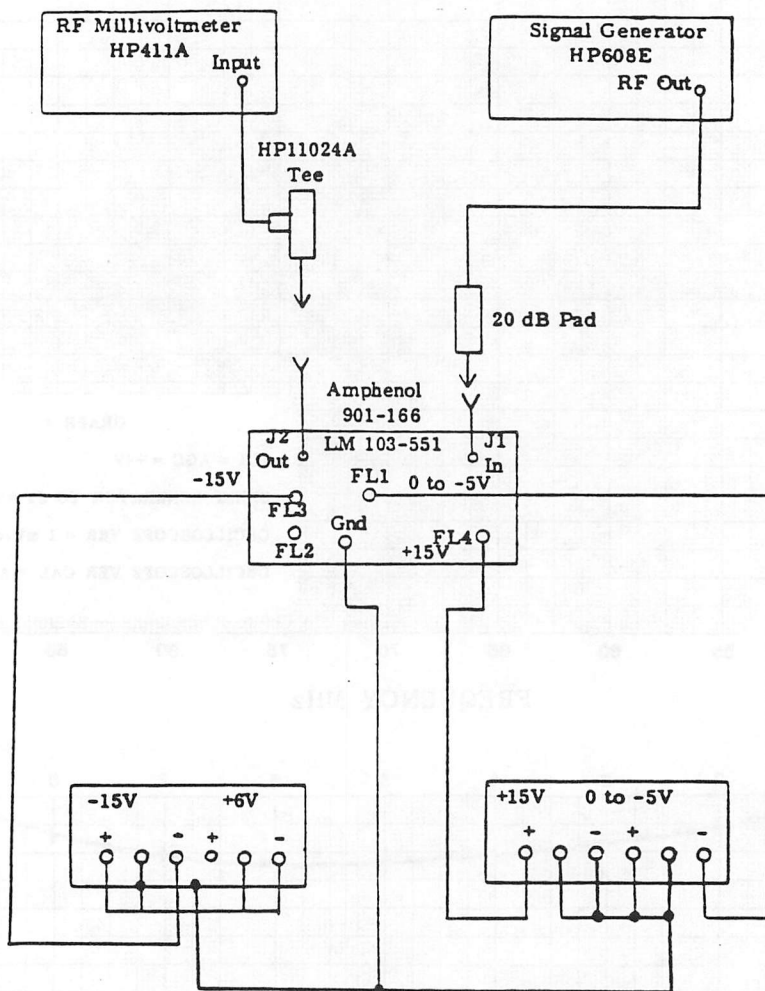

Figure 5-2. A6, Gain Test Setup
a. Connect the test equipment as shown in Figure 5-2.
- d. Adjust the HP608's RF output attenuator to produce a -20 dBm reading on the HP411A. Record the HP608's RF output attenuator setting. (The 20 dB pad connected as shown in Figure 5-2 calibrates the HP608's RF output attenuator for direct gain measurement.) The gain should measure 4- dB  $\pm$ 2 dB.